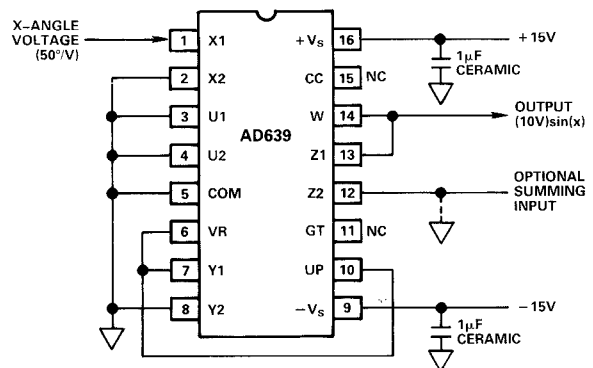

Figure 2. Connections for the Sine Mode with Amplitude Preset to 10V
The AD639 can generate either (1) a low-distortion continuous sine wave from a repetitive triwave input or (2) a high-accuracy sine function for use in computational applications. In most cases, the choice of preset or externally-controlled amplitude will make little difference to distortion or accuracy, and both methods are used in this section. In all of the *normal modes*, the Z2 input can be used either to sum a further signal to the output (or introduce an optional output offset trim). The denominator is set to unity by making $y=90^\circ$, using the +1.8V output. Figure 2 shows typical connections. The 10V preset is selected, using V_r as a control input to UP, and the ideal output is $(10V)\sin(x)$. In practice, five basic types of error arise:
1. *X-angle scaling error*: The amount by which the angle generated for each volt of X-input differs from 50° . In triwave-to-sinewave (CW) applications this introduces odd-order harmonic distortion, and is indistinguishable from an incorrect triwave amplitude.